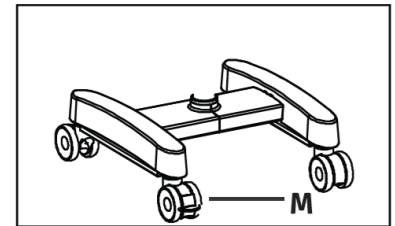

Fig. 48
Locks the stand from unwanted movement by pressing down the two brakes provided on caster wheels. To unlock press upper portion of brake. See (M) Fig. 48.